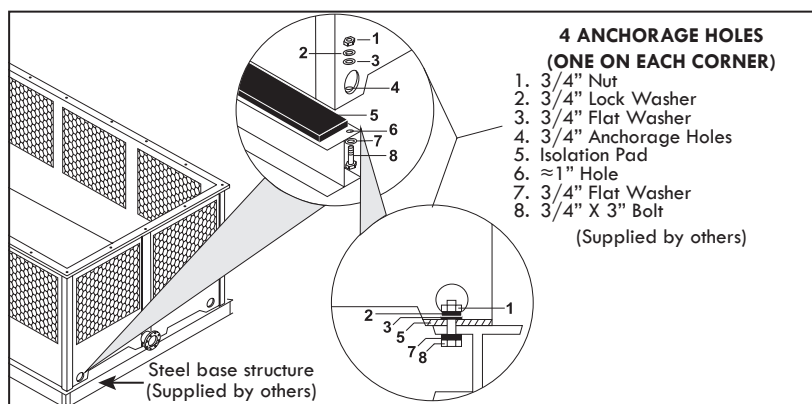

Figure A-47: Typical anchorage for an RTG model.
- F. Place the basin section of the Tower on top of the isolation pad and the base structure; Secure it with the stainless steel nut and bolt sets (supplied by others) as shown on Figure A-47.